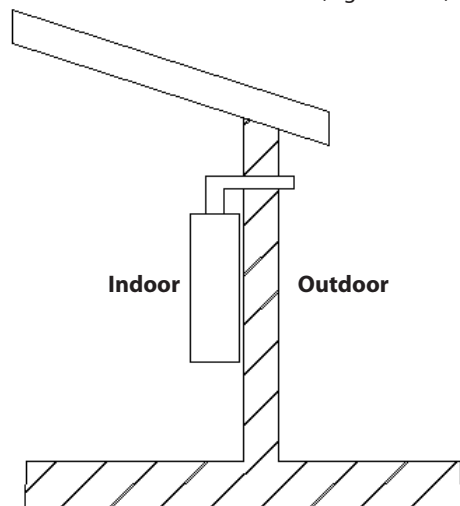

Figure 6.3-1
- The flue of the gas water heater should be installed through an external wall, the heater cannot be installed outdoors (Figure 6.3-1)